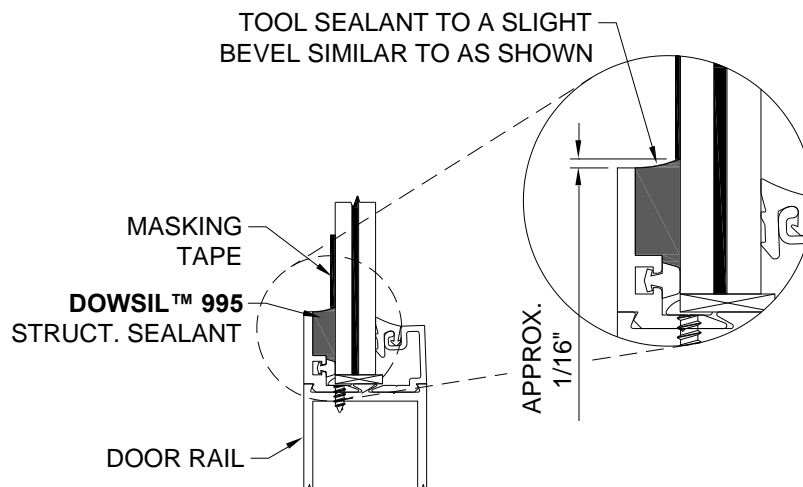

Figure 42: Wet Glazing Exterior of Door
- 13.5.2 Clean glass with isopropyl alcohol and mask off glass with 1" wide (minimum) low-adhesion masking tape. For masking tape application location, reference Figure 42.
- 13.5.3 Fill the cavity between the glass and the **D-152 Glass Stop** with **DOWSIL™ 995 Structural Silicone Sealant**, as shown in Figure 42 enlarged detail. Care should be taken not to leave any voids and to eliminate air bubbles in the sealant. Immediately tool, creating a finished joint with a slight beveled/curved joint surface.